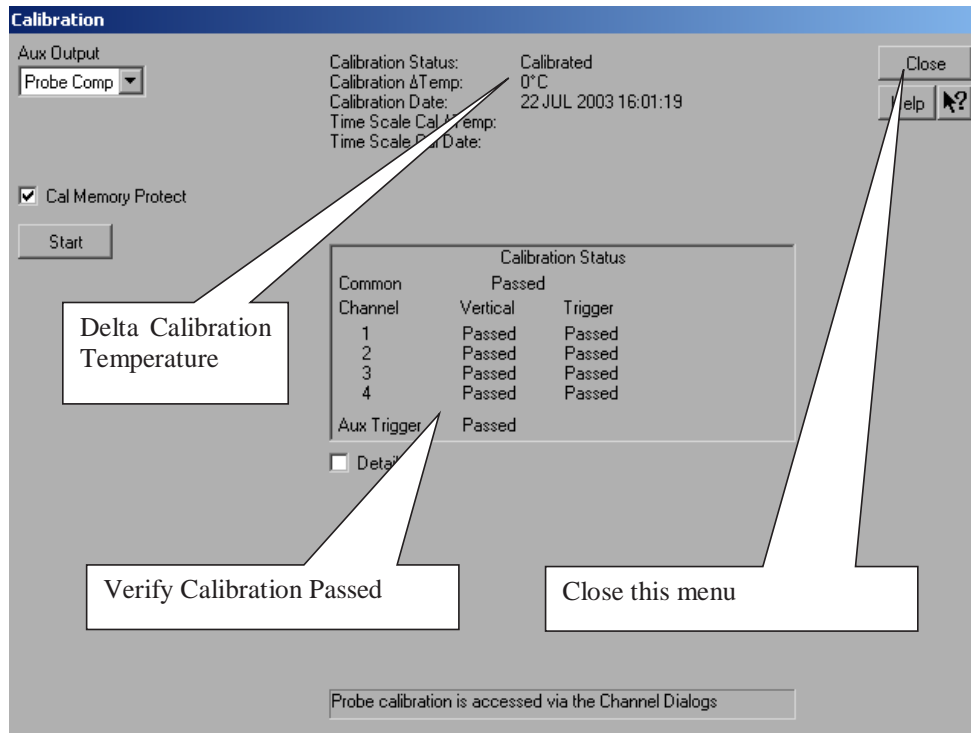

Figure 288 Calibration Status Screen.
- 6 Referring to Figure 288 below, perform the following steps: